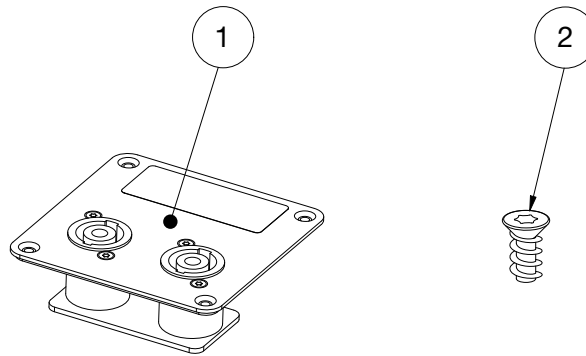

Figure 2.1 - Components
Please note that you receive the speakON® option (item 1 - Figure 2.1) fully assembled.